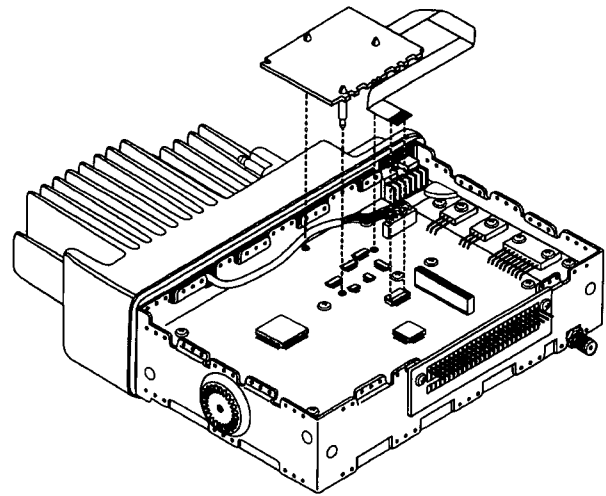

Figure 1-13.
9. Position the support posts over the three holes on the logic board and firmly press down on Advantage Board until the support posts snap into the holes. (Refer to Figure 1-13.)